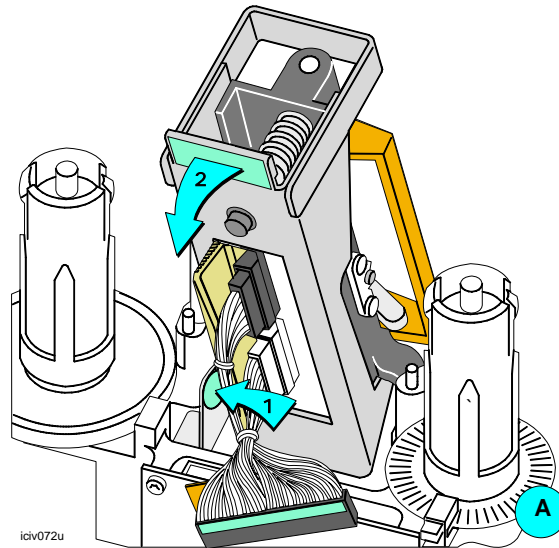

Figure 7-14: Press the printhead cage stop
- 7 Press the printhead cage stop (step 1 in Figure 7-14) and move the printhead back (step 2 in Figure 7-14).
- i** Avoid bumping the wheel at the bottom of the supply spindle (A in Figure 7-14).